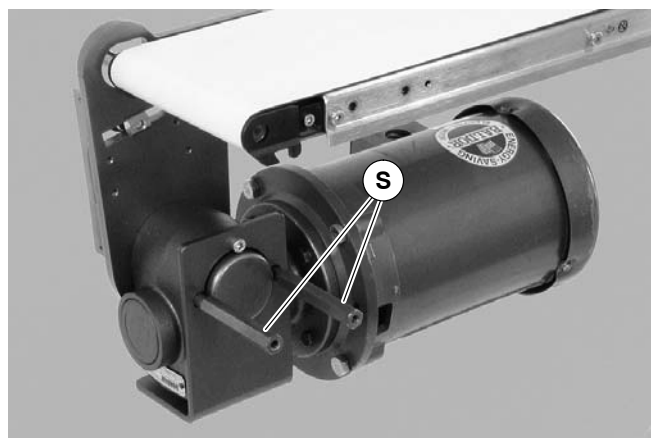

Figure 25
5. Remove hex support posts (S of Figure 25).